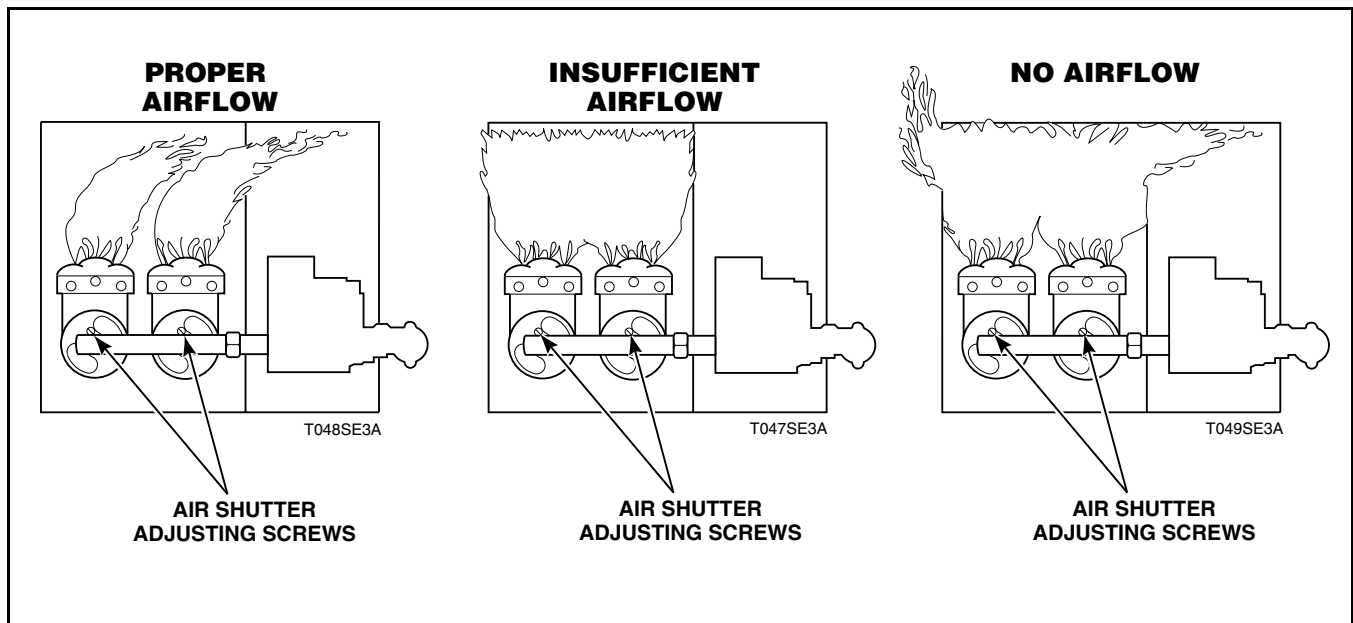

Figure 48
Refer to *Figure 48*.
- Start tumbler and check the flame pattern. Correct air and gas mixture is indicated if flame pattern is primarily blue with small yellow tips and bends to the right of the heater section. Refer to *Figure 48*. Too little air is indicated if the flame is yellow, lazy and smoky.
- To adjust the air inlet shutter, loosen air inlet adjusting screw. Refer to *Figure 48*. Control panel may have to be removed temporarily to loosen screw.
- If shutter is correctly adjusted, but the flame pattern is straight up, insufficient air is flowing through the tumbler and airflow switch is improperly set. A flame pattern that flares to the right and left indicates that no air is flowing through the tumbler. Refer to *Figure 48*.